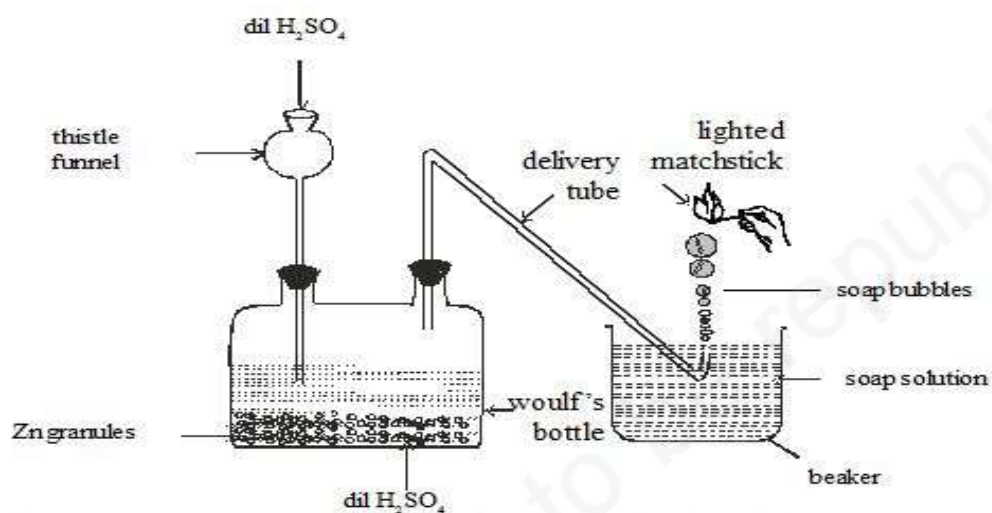

Fig 3.1. Zinc granules react with dilute sulphuric acid to give hydrogen gas. Hydrogen burns in air with a pop sound.
- ☞ Set up the apparatus as shown in Fig. 3.1